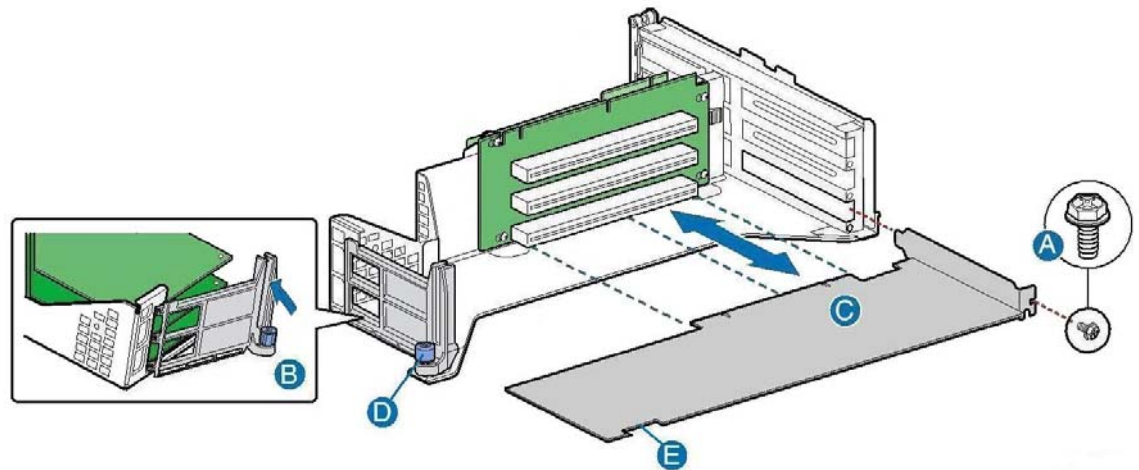

Figure G-3 Prosody X Card Removal and Installation
- Slide the Prosody X card into the PCI riser card assembly as shown in Figure G-3. Ensure that the Prosody X edge connector is correctly inserted into the riser card connector (“C”).